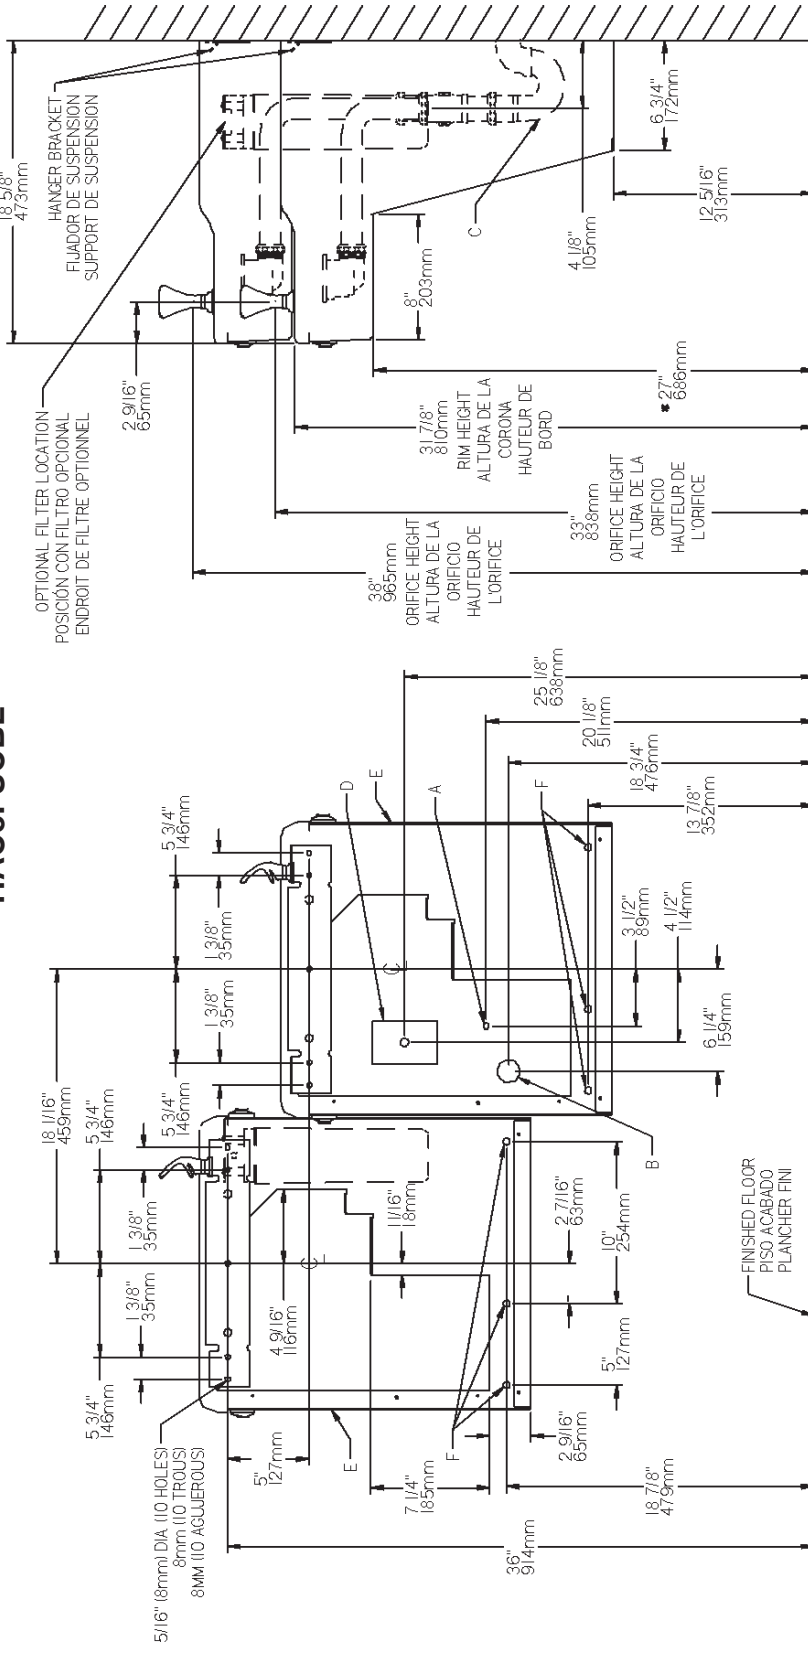

FIG. 2
- 1) Remove hanger brackets fastened to back of cooler by removing one (1) screw.
- 2) Mount the hanger brackets and trap as shown in Figures 2 or 3.